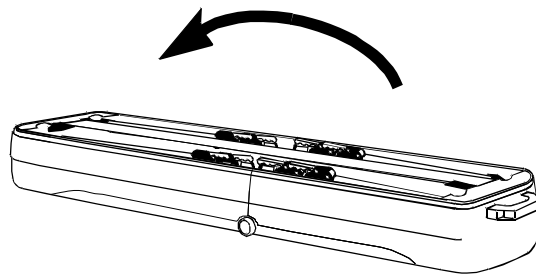

Fig 15
- 11 Pull the keyring to release the track catch. Fold the track until the case latch engages (Fig 15)